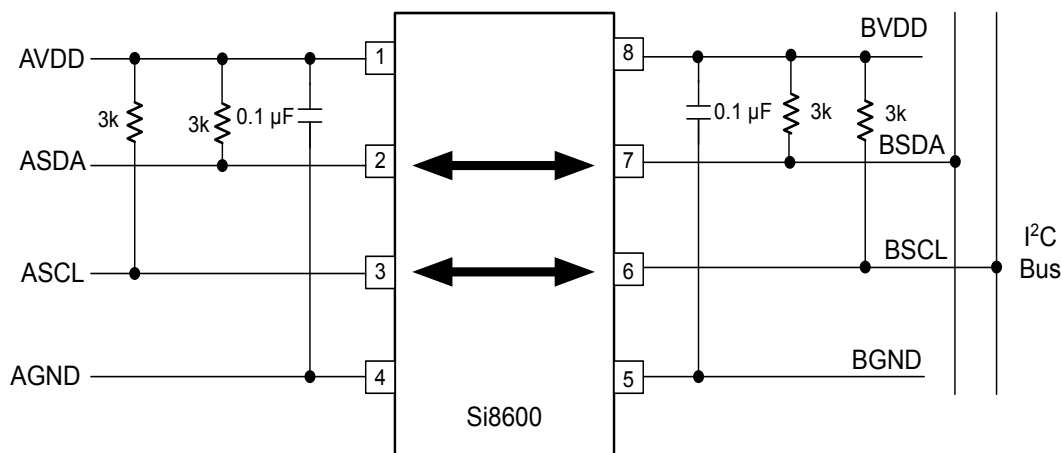

Figure 3.2. Typical Si8600 Application Diagram
3.0 V < VDD < 5.5 V. T_A = –40 to +125 °C. Typical specs at 25 °C (See Figure 5.2 Simplified Timing Test Diagram on page 18 and Figure 3.2 Typical Si8600 Application Diagram on page 8 for test diagrams.)